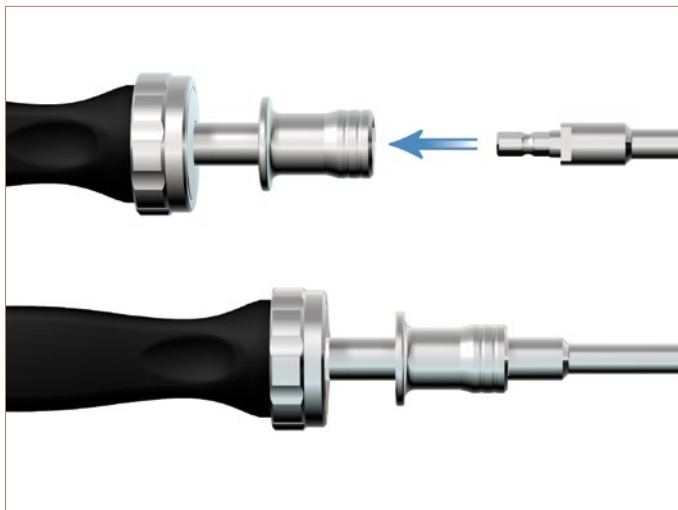

Figure 27
- ▶ Assemble the Center Screw T25 driver to the 4-sided ratcheting handle [Figure 27]